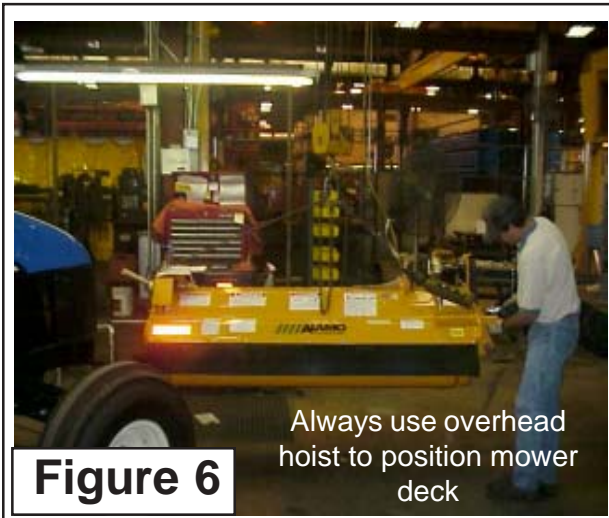

Figure 6
3. Install Switch Brackets & Head Mounting Brackets. Use a hoist to lift the Wing Mower and position it for mounting. DO NOT get under Mower while lifted on a hoist (See Figure 6). Mower is only be positions so that switch brackets and hinge brackets can be installed to head, this must be done before mower can be mounted to lift frame.